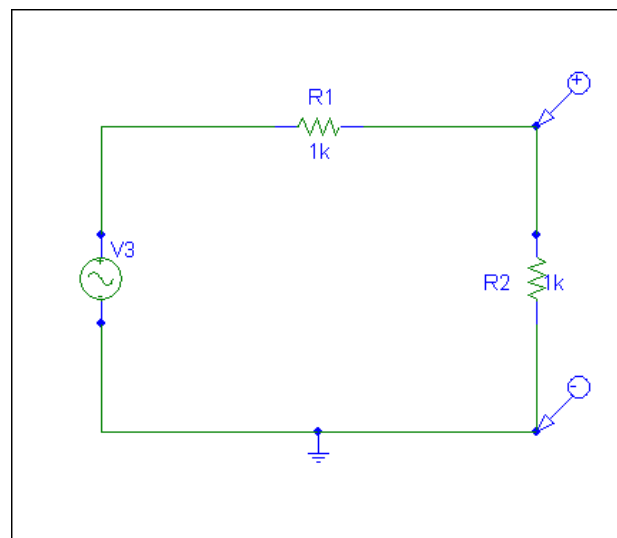

Figure 5.9
2. Simulate the circuit in Figure 5.9. Notice that the input source is no longer DC. Instead we will use an alternating source (AC) voltage. Display both input and output voltages plots on the same graph. Do this for both a sinusoidal input (Vsin) source as well as for a square wave (Vpulse) source. Below are the parameters you need to set the sources to. You may change a source's or any parts parameters by double clicking on the part.